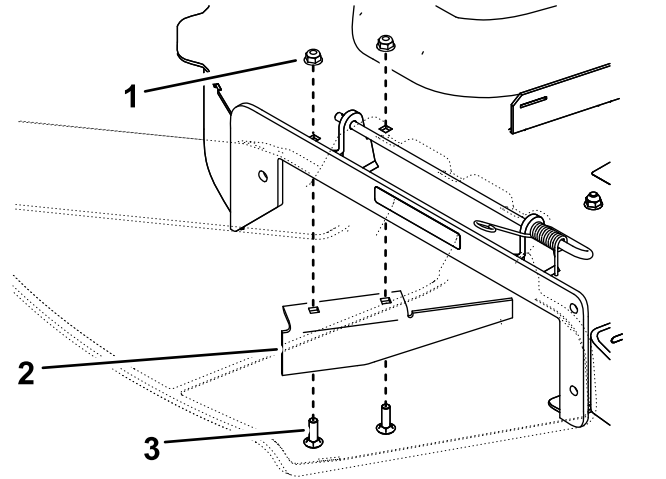

Figure 1
4. Remove the 2 bolts and 2 nuts securing the cutoff baffle to the deck and remove the cutoff baffle (Figure 1).
1. Nut (2)
3. Bolt (2)
- For all other machines, install the fasteners in the same holes from which they were originally removed (Figure 1).